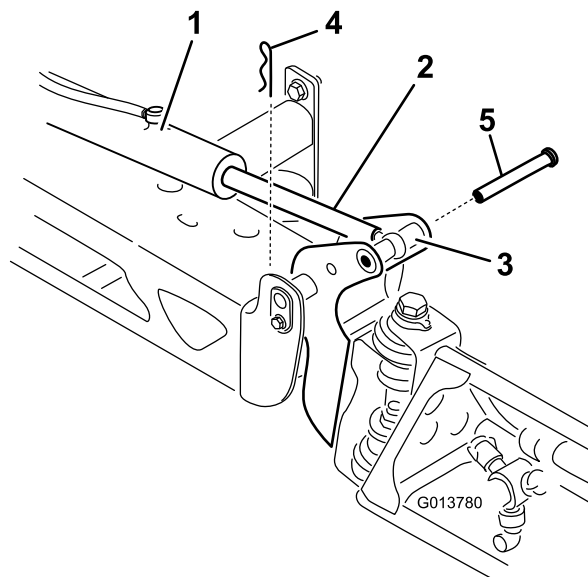

Figure 101
2. Remove the cotter pin from the pivot pin (Figure 101).
3. Lift up on the boom and remove the pin (Figure 101), and slowly lower the boom to the ground.